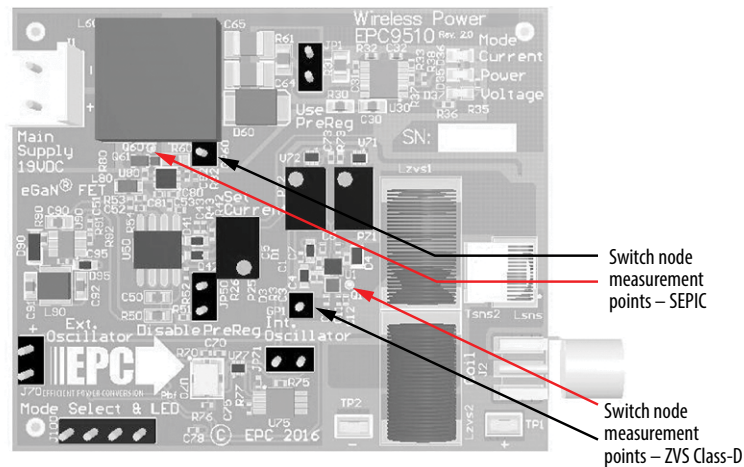

Figure 9: Proper measurement of the switch nodes using the hole and ground post
3. Connect a LOW capacitance oscilloscope probe to the probe-hole and ground post indicated in figure 9.
1. When measuring the high frequency content switch-node (Source Coil Voltage), care must be taken to avoid long ground leads. An oscilloscope probe connection (preferred method) has been built into the board to simplify the measurement of the Source Coil voltage (shown in figure 9).